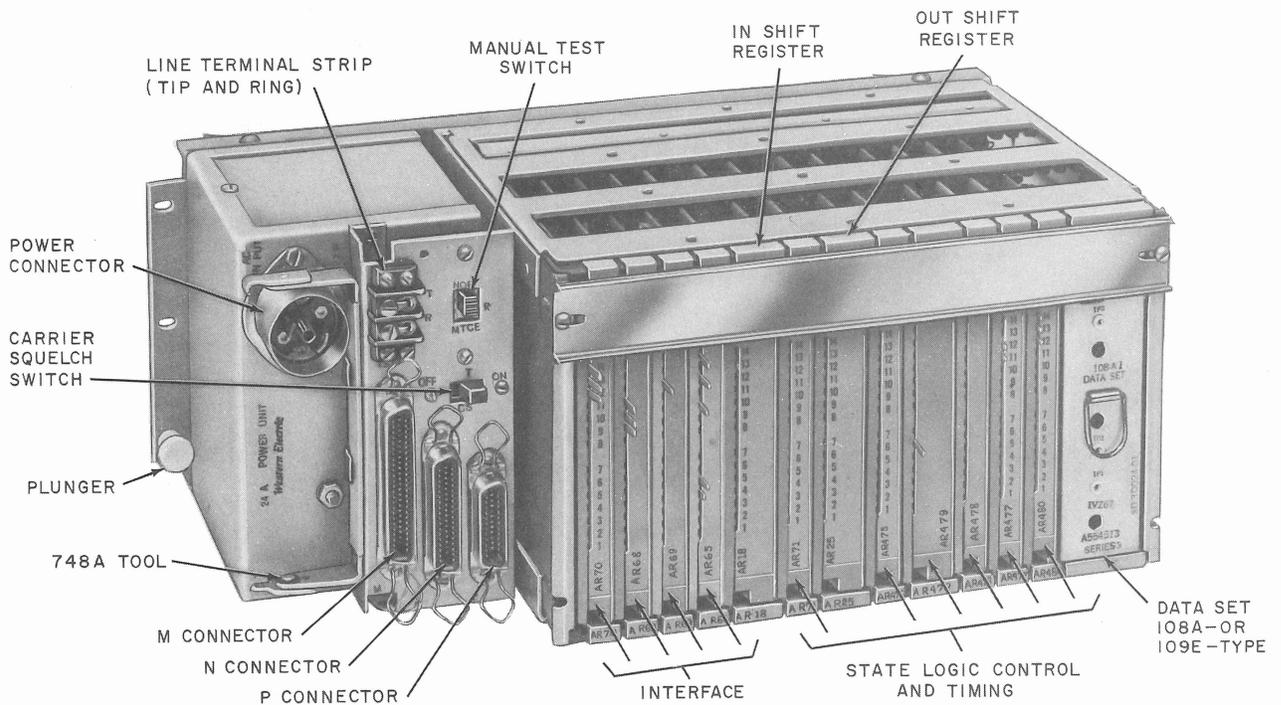

Fig. 1—Data Auxiliary Set 820A5 (Controller)
4.01 Maintenance of the controller can be accomplished by substitution of circuit packs. Refer to Fig. 1 and Table A for information on circuit pack substitution. Table A is keyed to the Attended Test by the table steps corresponding to the test steps. When the station fails a step, Table A gives the suggested circuit pack substitutions and areas that should be checked for trouble or malfunction.